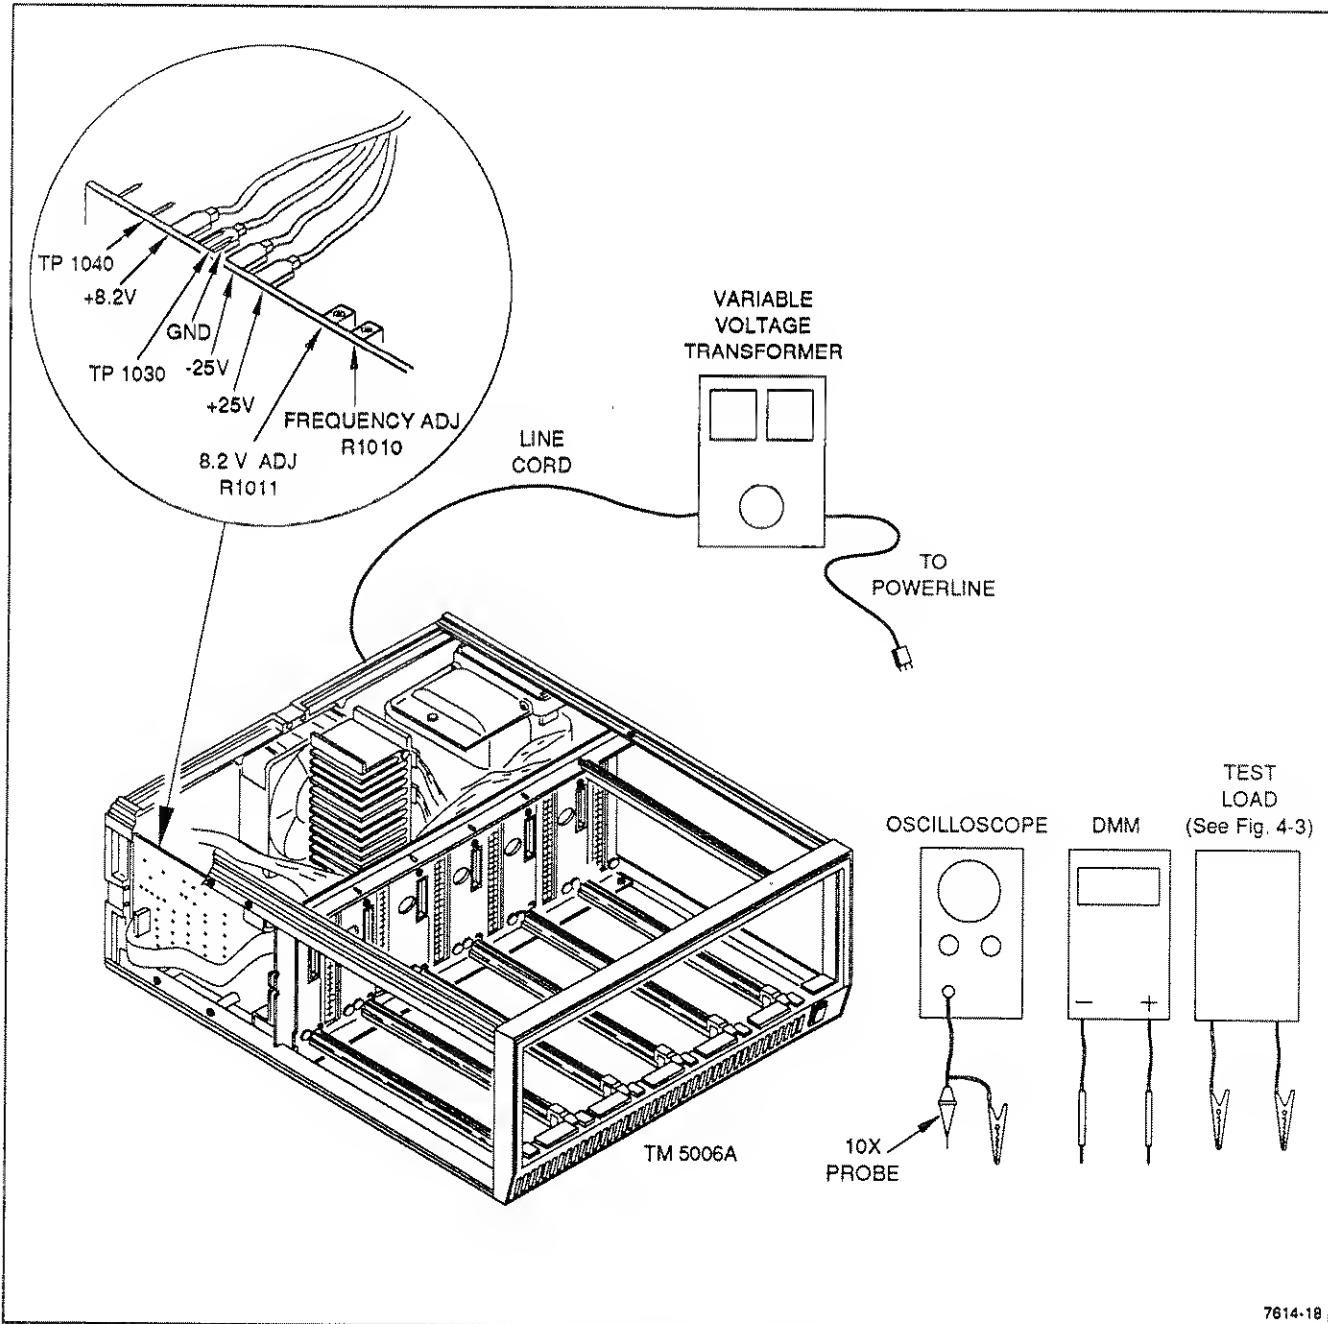

Fig. 4-4. Internal adjustment setup.
Remove the top cover to gain access to the supply buses and the adjustments. Figure 4-4 shows the adjustment locations.
- a. Connect the DMM to the +8.2 and ground terminals shown in Figure 4-4.